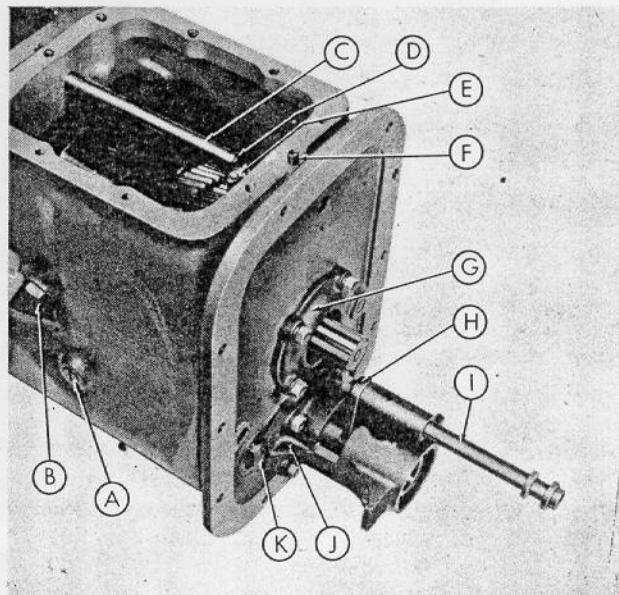

Fig. 3
- a. Loosen the locknut on the fork screw (E-Figure 3) and back off the screw until the shaft (C-Figure 3) is free to slide out the rear of transmission housing.
- b. Remove the shifter rod fork spring (F-Figure 3).
- c. Lift out the shift fork (D-Figure 3).
- a. Remove the hex head pivot screws (B-Figure 3) from both sides of the housing.
- a. Remove the PTO shift rail stop (H-Figure 3) and slide the shift rail (I-Figure 3) rearward so that the bearing retainer will clear.
- b. Remove the main shaft rear bearing retainer (G-Figure 3) and the shims.
- a. Remove the interlock screw plug (A-Figure 3) and the spring from both sides of the housing.
- a. Remove the PTO shifter assembly (J-Figure 3).
- a. Pull the shaft K-Figure 3) rearward.